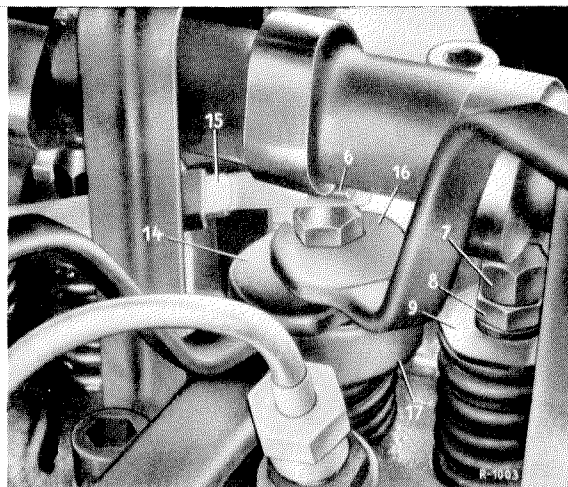

Figure 00-3/5
4. Use a feeler gauge to measure the valve clearance. The feeler gauge (15) must be moved **between the rocker arm (6) and the cap nut (7)** with slight resistance (see fig. 00-3/4 and 00-3/5).